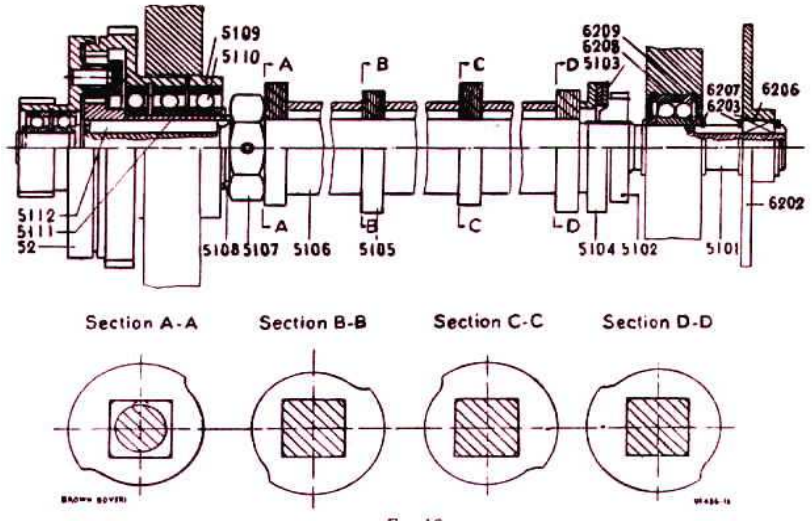

FIGURE 2.7 CAMSHAFT ASSEMBLY
- Dismantle camshaft. Components of camshaft are shown in figure 2.7.
Details of figure 2.7